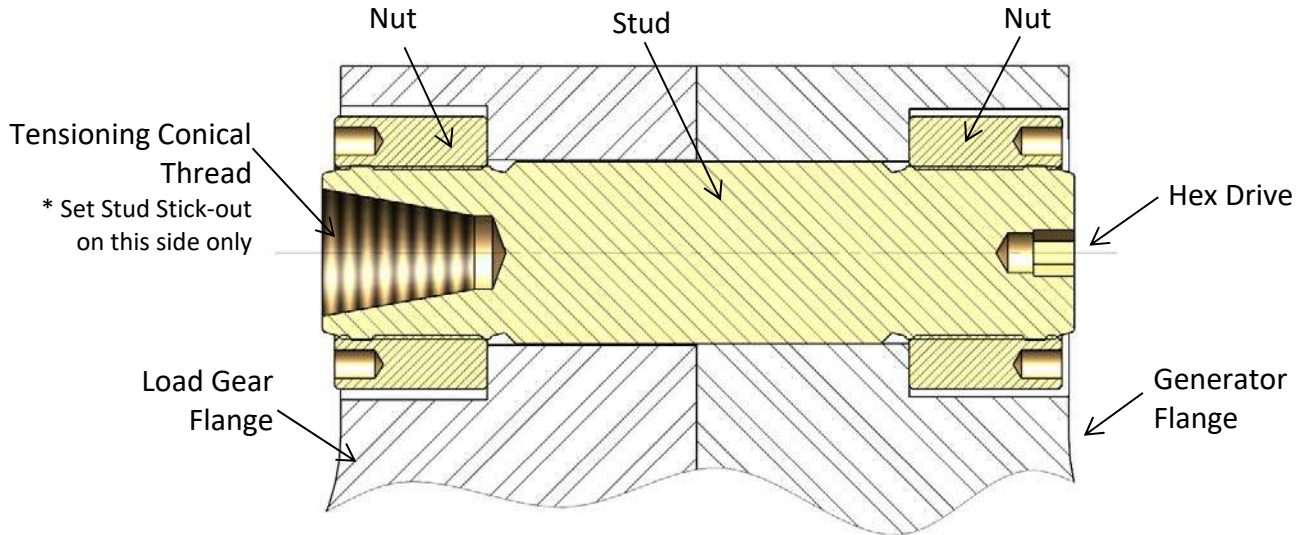

Figure 6A – Cross-section View of Load Gear to Generator Bolted Flange Connection
2. Slide the stud and cylindrical nut assembly into the flange as shown in Figure 6A.